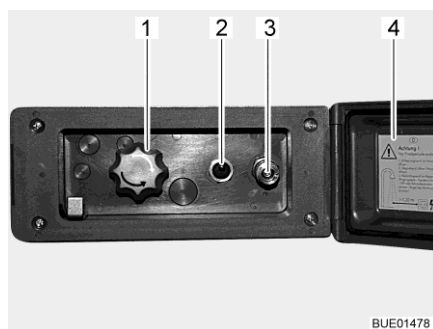

Fig. 123 External shower connection point
- Unlock and open the cover (Fig. 123,4).
- Attach hose of the external shower to the quick closure (Fig. 123,3).
- Switch on the water pump using the switch (Fig. 123,2).
- Adjust the water temperature with the rotary knob (Fig. 123,1) as desired.
- Switch off the water pump using the switch (Fig. 123,2).
- Close the cover (Fig. 123,4) and lock with key.
- Turn knob (Fig. 123,1) to the central position.